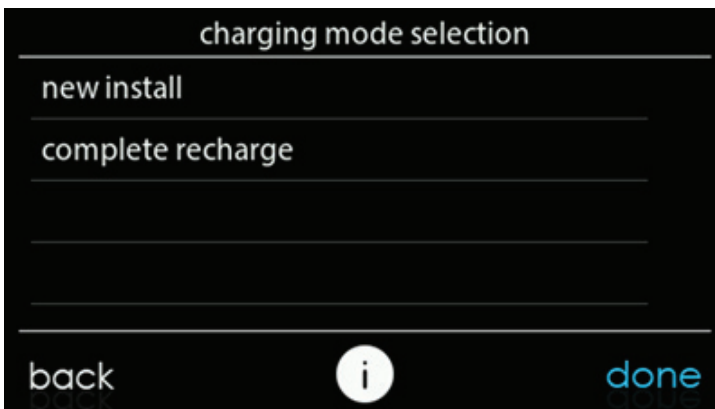

Fig. 19 – Charging Mode Selection
12. If this is a new install, i.e. the ODU is factory charged, then select "new install" in the "charging mode selection" screen (see Fig. 19)